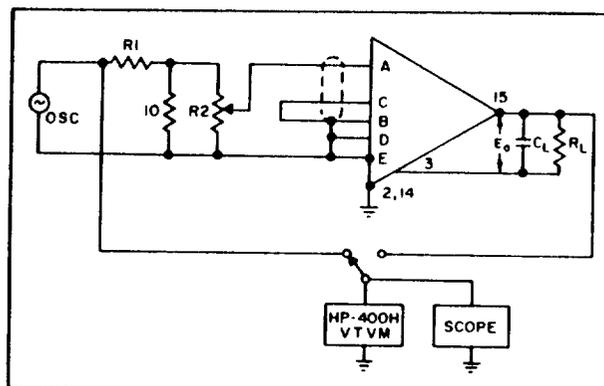

Figure 6-1. Frequency Response Test Circuit ($G > 1$)
- 1) Connect the amplifier as shown in Figure 6-1. R2 should be a multiturn potentiometer to provide the required resolution. Select R1 to provide the necessary attenuation at the desired gain setting of the amplifier. The load resistance and capacitance can be any value within the load specifications.